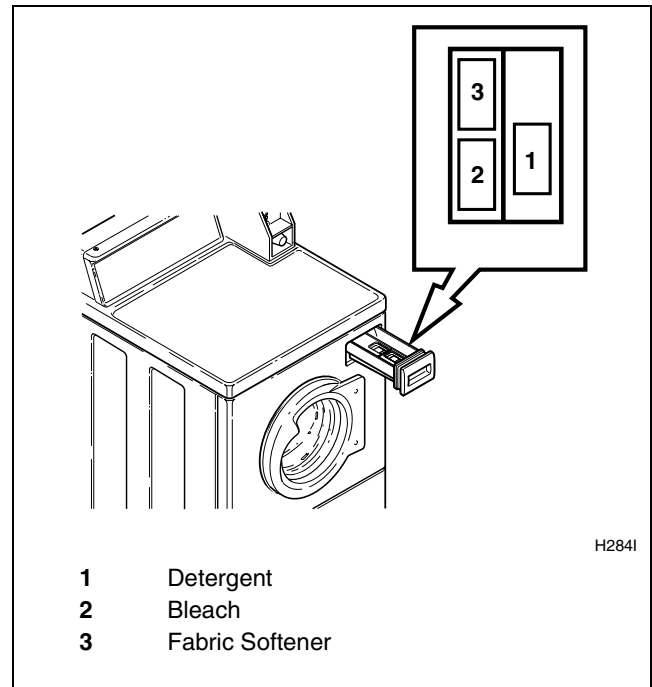

Figure 24
Open dispenser drawer. Measure and add low sudsing detergent (1), bleach (2) and fabric softener (3) to the dispenser drawer (refer to *Figure 24*). Close dispenser drawer.